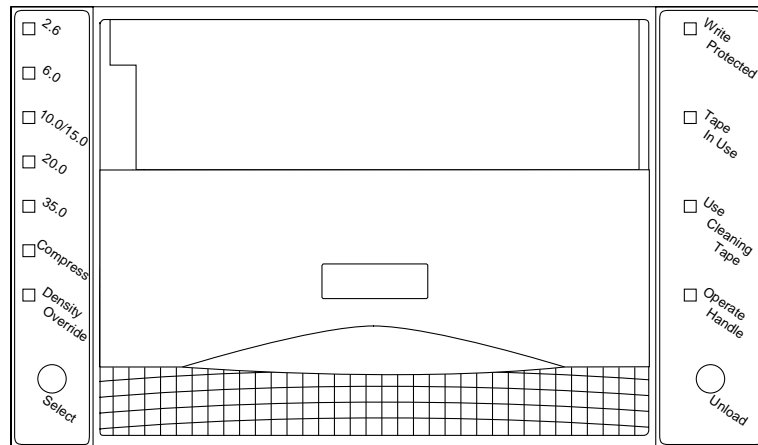

Figure 2-1 DLT7000 Front Panel
The tape drive has seven left front panel LEDs (Figure 2-1). The LEDs are described in Table 2-1.
The tape drive has four right front panel LEDs (Figure 2-1). The LEDs are described in Table 2-2.
1. **Make sure that the Operate Handle LED is on (Figure 2-1).**